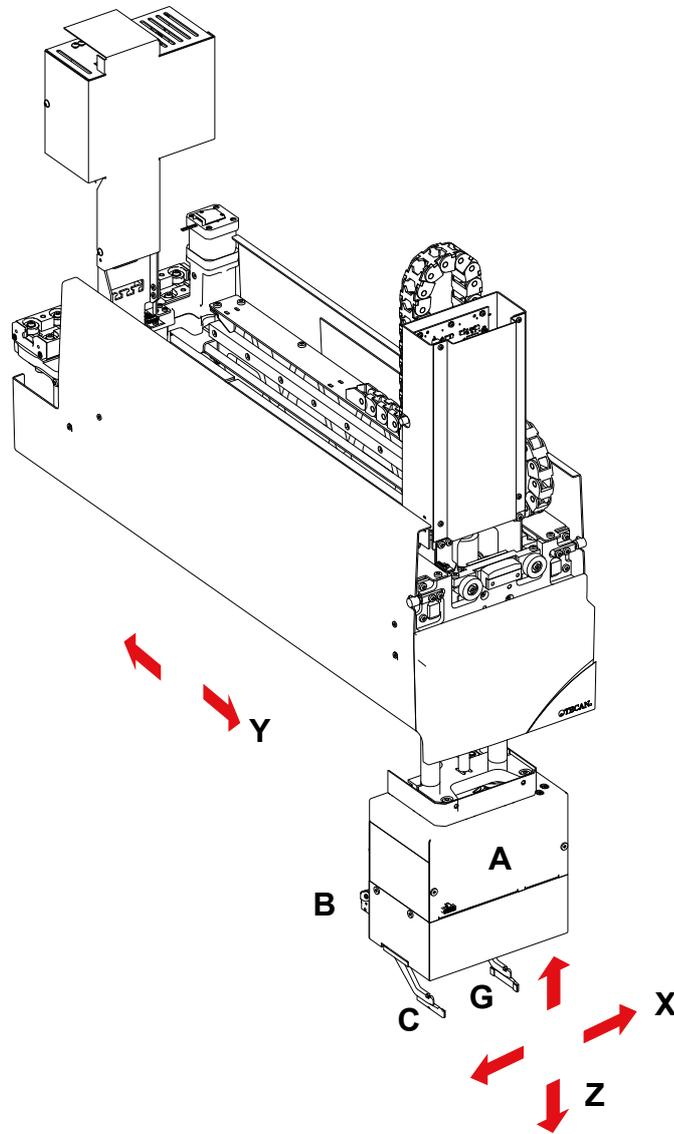

Fig. 3-35 MCA 96 with Gripper)
- Overview** Figure 3-35 shows an overview of the Multiple Channel Arm 96 and illustrates the direction of movement of the corresponding axes: